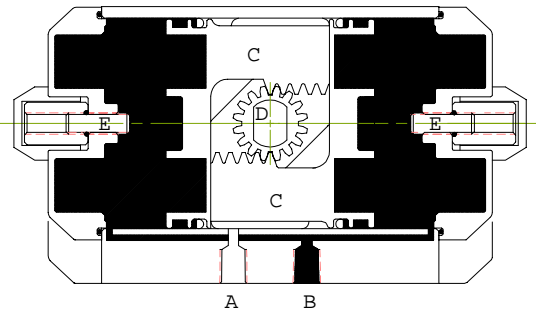

Figure 2 - S90 Double Acting
Figure 2 shows a S90 Double Acting Actuator completing the Air Stroke Clockwise to the Close Position. When pressure is applied to the Right Input Port (B), the actuator will exhaust through the Left Input Port (A). The Pistons (C) will move toward each other, and the Output Shaft (D) will rotate in a clockwise direction when viewed from the top. The Pistons will move until they touch each other.